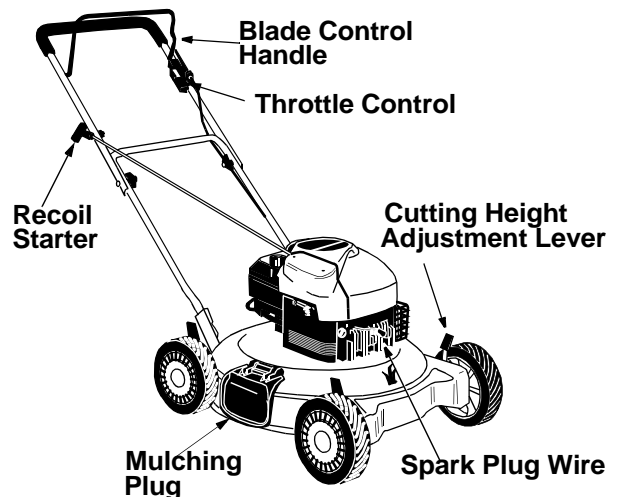

Figure 6
The blade control handle is located on the upper handle of the mower. See Figure 6. The blade control handle must be depressed in order to operate the unit. Release the blade control handle to stop the engine and blade.
The throttle control lever is located on the left upper handle and is used to regulate engine speed. Moving the throttle lever all the way forward activates the choke. The choke is used to close the choke plate on the carburetor and assist in starting a cold engine. It may not be necessary to use it when restarting a warm engine after a short shutdown. See Figure 6.
- The recoil starter handle is attached to the handle. See Figure 6. Stand behind the unit in the operating position to start the unit.